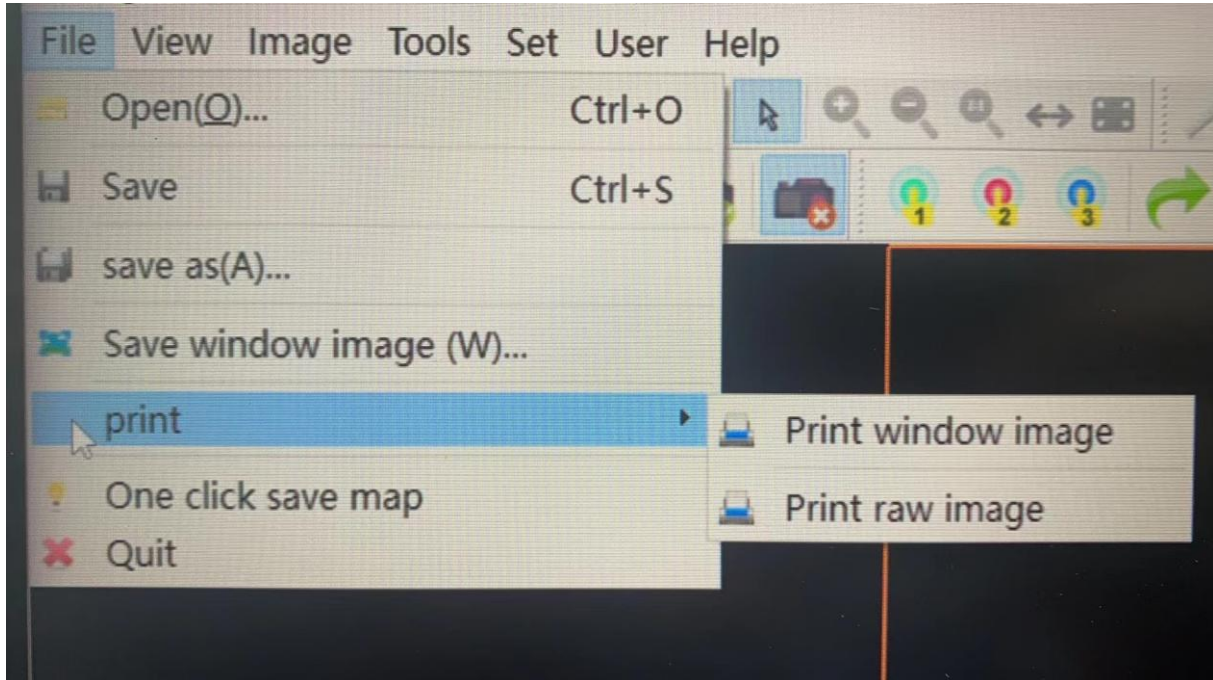

Fig. V-98 File Menu
The Application "File (F)" menu provides function options: open image, save image, save as, save window image, print image, exit Application. See Fig. V- 98 for File Menu.